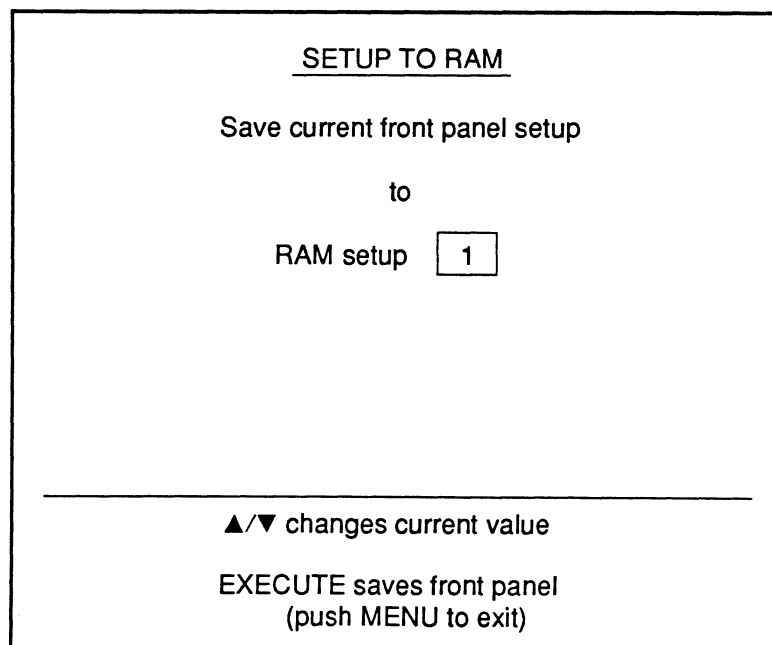

Figure 2 - Setup To Ram Screen
1. Execute I/O PARAMETERS. The I/O Parameters screen appears (Figure 2).